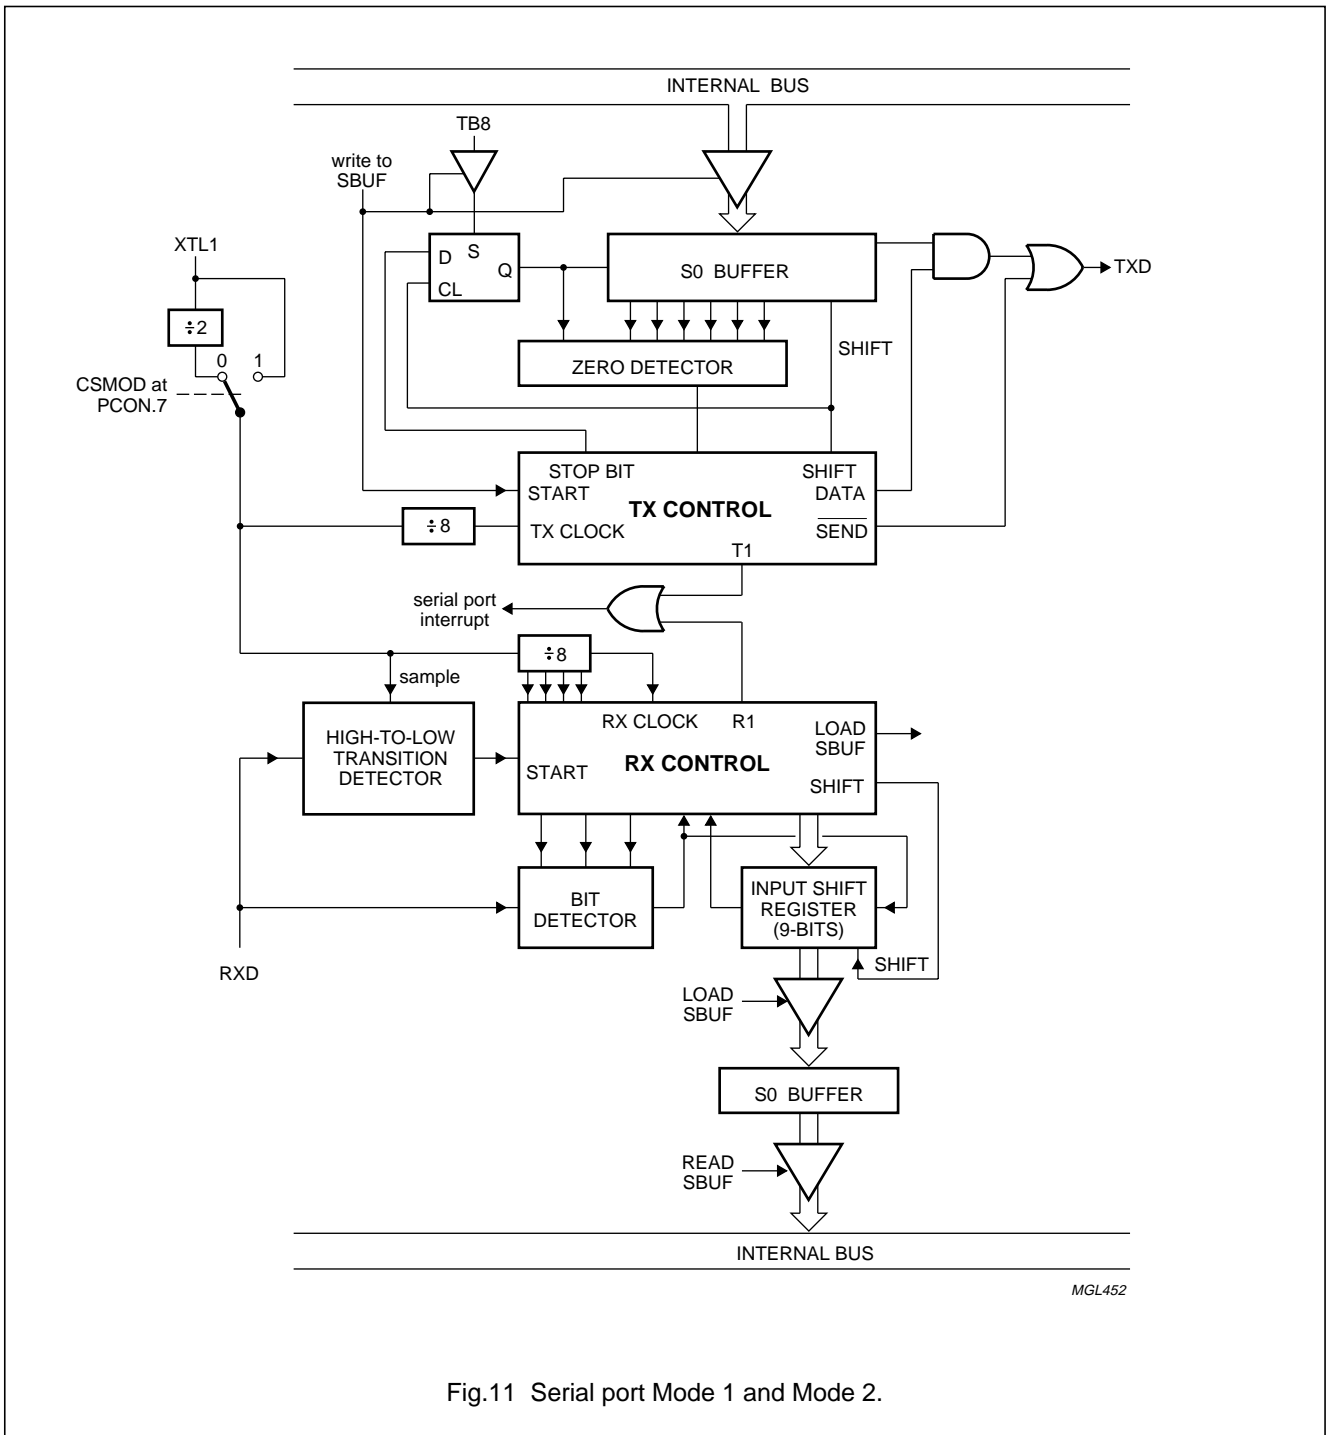

Fig.11 Serial port Mode 1 and Mode 2.
**Mode 1** 10 bits are transmitted (through TXD) or received (through RXD): a START bit (0), 8 data bits (LSB first) and a stop bit (1). On receive, the stop bit goes into RB8 in special function register S0CON (see Figs 11 and 12).
**Mode 2** 11 bits are transmitted (through TXD) or received (through RXD): a start bit (0), 8 data bits (LSB first), a programmable 9th data bit and a STOP bit (1). On transmit, the 9th data bit (TB8 in S0CON) can be assigned the value of 0 or 1. Or, for example, the parity bit (P, in the PSW) could be moved into TB8. On receive, the 9th data bit goes into RB8 in S0CON, while the STOP bit is ignored (see Figs 11 and 13).